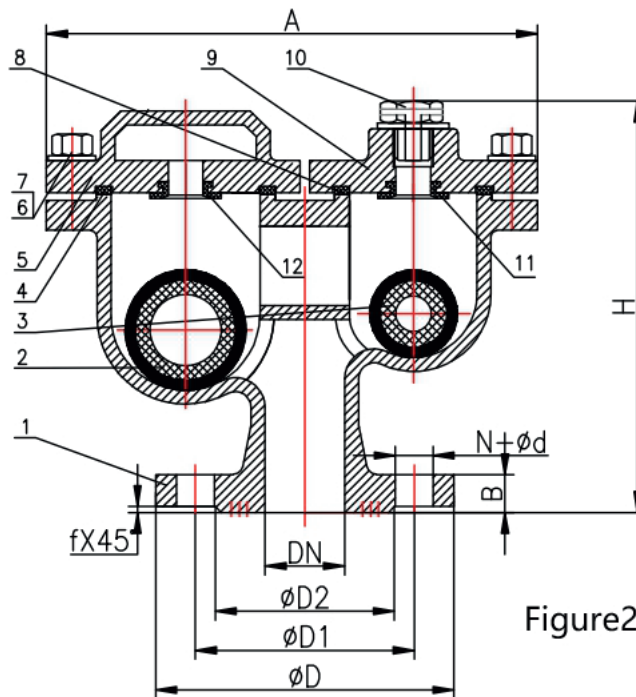

Figure2
- The basic structure of the air valve is shown in Figure 2